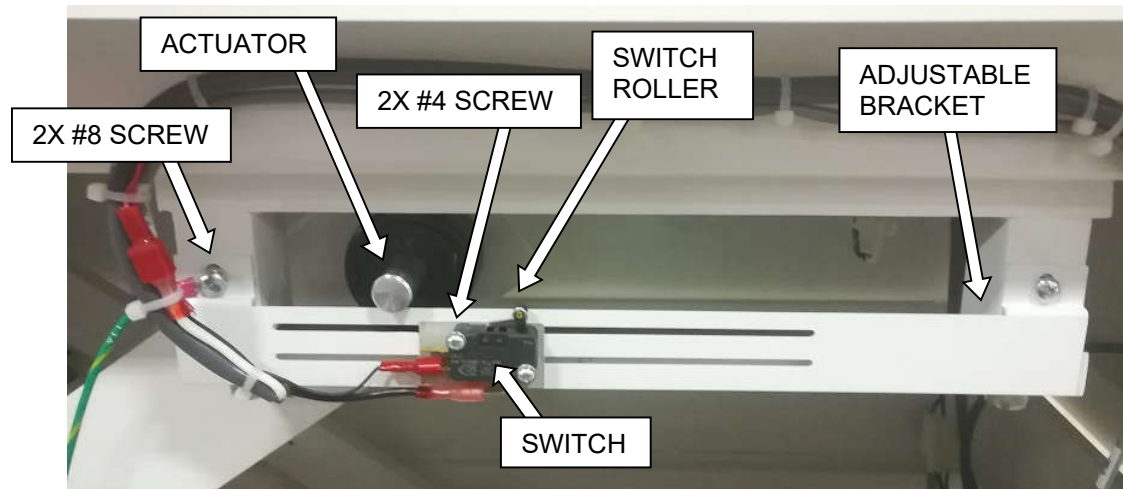

Figure 4: SID/Working Height Adjustment
3. Loosen the #8-32 screws and move the adjustable bracket down away from the tabletop (See Figure 4 below).